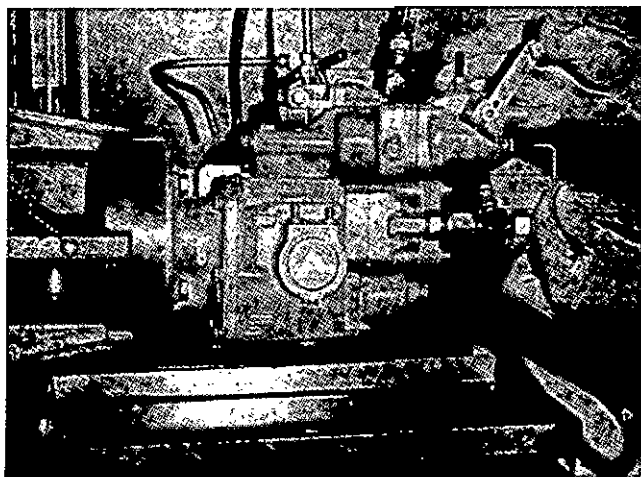

Fig. 10-66, (F5176). Adjust the MVS governor idle.
4. Set and hold the MVS lever in the idle position. Adjust the rear MVS screw until the idle pressure is 10-12 psi [69-83 kPa] above the specifications. Tighten the idle screw locknut immediately after the adjustment is made. This will prevent air from entering the system, Fig. 10-66.